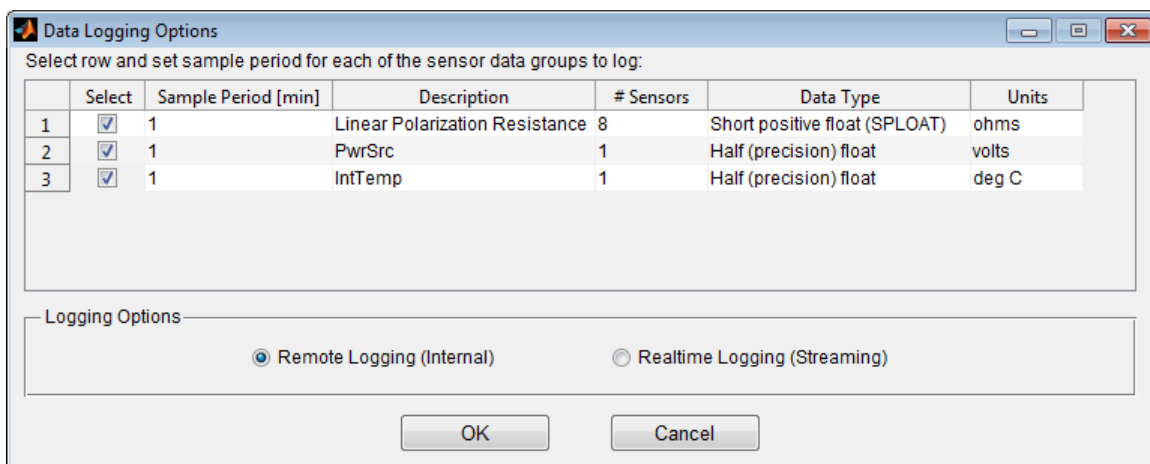

Figure 5.1: 'Data Logging Options' dialog box for remote logging.
- ✓ **Step 5.1** Click Commands ▷ Start Logging... from the main menubar. This can also be achieved by clicking the  button from the toolbar. A 'Data Logging Options' dialog box will appear, as shown in Figure 5.1, displaying a table of available sensor groups to log.
- ✓ **Step 6.1** Click Commands > Realtime... from the main menubar. This can also be achieved by clicking the  button from the toolbar. A 'Data Logging Options' dialog box will appear, as shown before in Figure 5.1 on page 18, displaying a table of available sensor groups to log. The only difference is the realtime logging option is selected.